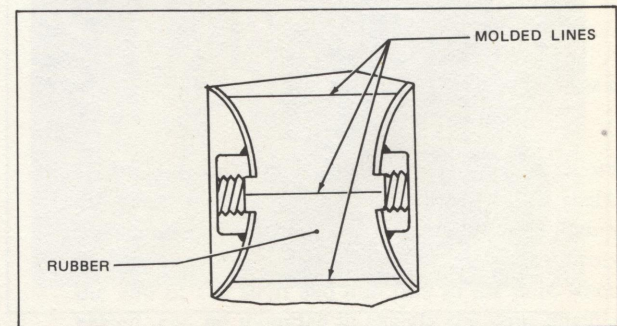

FIG. V-18. CROSS-SECTION OF RUBBER MOUNT (MOUNTING SANDWICH).
NOTE: When tightening bolts, avoid twisting the rubber mounts. Molded lines on the mounts should be visibly straight after tightening. Do not over-torque. Reassemble any rubber mount that shows greater than 3 degrees (0.08 in.) twist in either direction after assembly, Fig. V-18.
3. Disconnect the flexible coupling by removing two bolts at each end of the coupling, Fig. V-18.